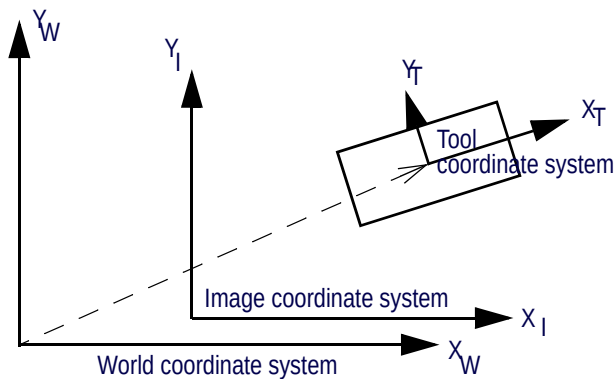

Figure 237 Image-Based Calibrated Mode: Relationship between Tool and World Coordinate Systems
- **Positioning coordinate system:** In the Image-based Calibrated mode, the tool is positioned with respect to the World coordinate system as shown in Figure 237.